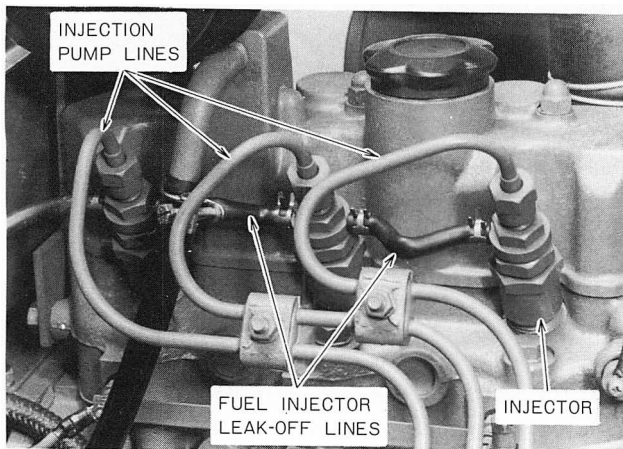

Figure 47 — Fuel Injector Leak-Off Lines
1. Clean all loose dirt from around the injectors and lines. Disconnect the leak-off lines from the injectors. See Figure 47.
3. Install the leak-off line, Figure 47. Tighten the leak-off line nuts to 22-30 lbs. ft. (30-41 N.m).